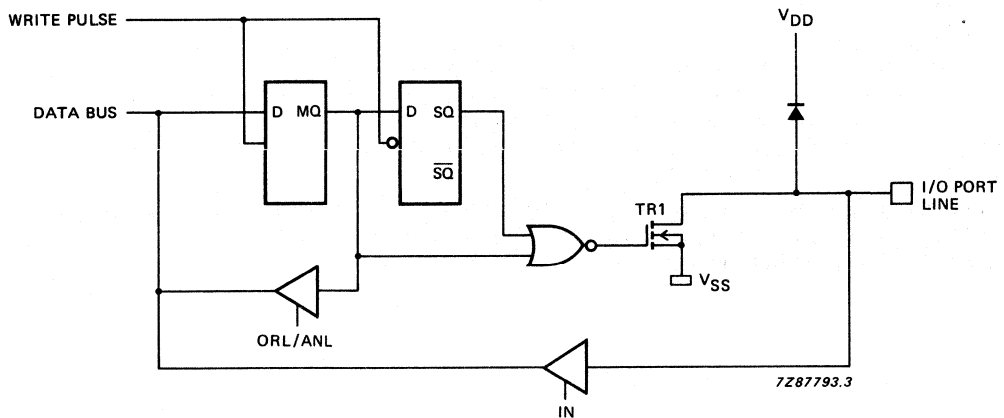

Fig. 11 Open drain output.
- Option 2 – **OPEN DRAIN**; quasi-bidirectional I/O with only an N-channel open drain output. Application as an output requires connection of an external pull-up resistor (Fig. 11). When an open drain port is unused it must be connected to  $V_{SS}$ .